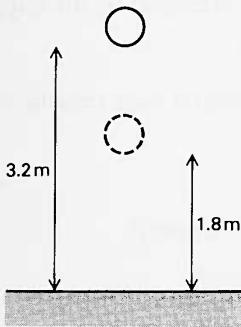

Figure A119
- 50(I) A ball of mass 0.1 kg is dropped from a height of 3.2 m onto a flat surface. It rises to a height of 1.8 m on the rebound (see figure A119). Calculate:
- 51(P) A long flat-topped railway truck of mass  $M$  which can move freely on a horizontal track, is at rest. A man of mass  $m$  is standing on the truck. The man suddenly runs at velocity  $v$  parallel to the direction of the track for time  $t$  and then stops.